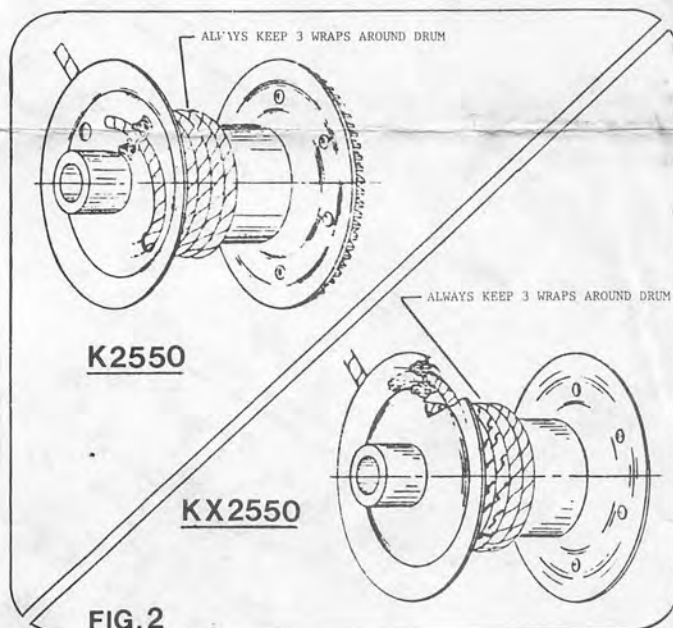

FIG.2
3. All nuts for the cable clamp should be on the outside of the drum. See Figure 2.